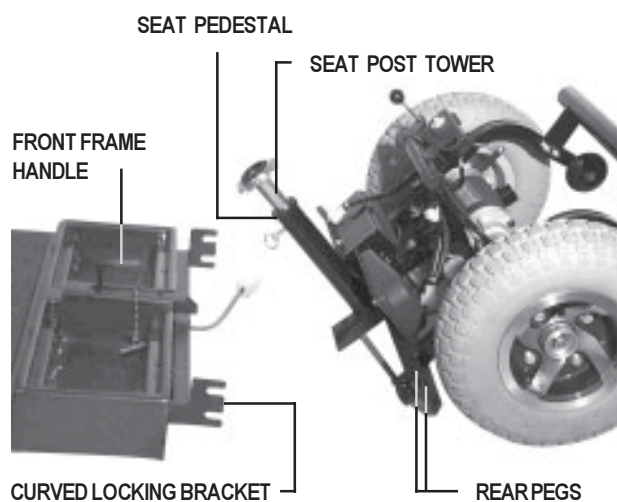

Figure 15. Separate Front and Rear Sections
11. Place one hand on the seat post tower and one hand on the front frame handle; gently slide the front and rear sections apart. See figure 15.
2. Position the front and rear sections of your Victory XL-8 as shown in figure 15.